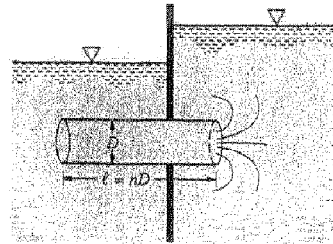

FIGURE P8.64
8.64 As shown in Fig. P8.64, water flows from one tank to another through a short pipe whose length is n times the pipe diameter. Head losses occur in the pipe and at the entrance and exit. (See Video V8.10) Determine the maximum value of n if the major loss is to be no more than 10% of the minor loss and the friction factor is 0.02.